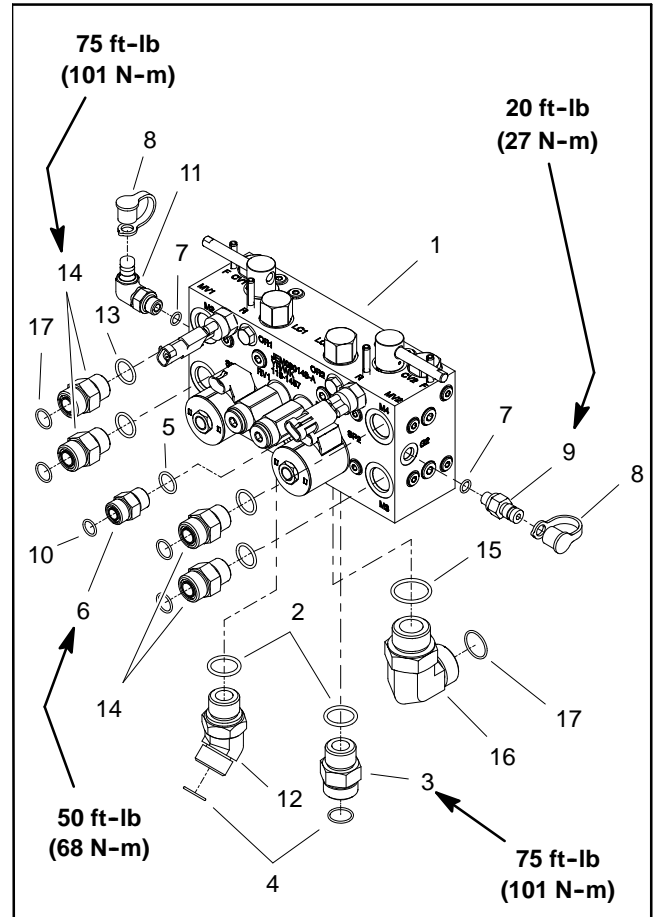

Figure 73
8. If hydraulic fittings are to be removed from control manifold, mark fitting orientation to allow correct assembly (Fig. 73). Remove fittings from manifold and discard O-rings.
1. If fittings were removed from control manifold, lubricate and place new O-rings onto fittings. Install fittings into manifold ports using marks made during the removal process to properly orientate fittings. Tighten fittings (see Hydraulic Fitting Installation in the General Information section of this chapter). Refer to Figure 73 for fitting installation torque.